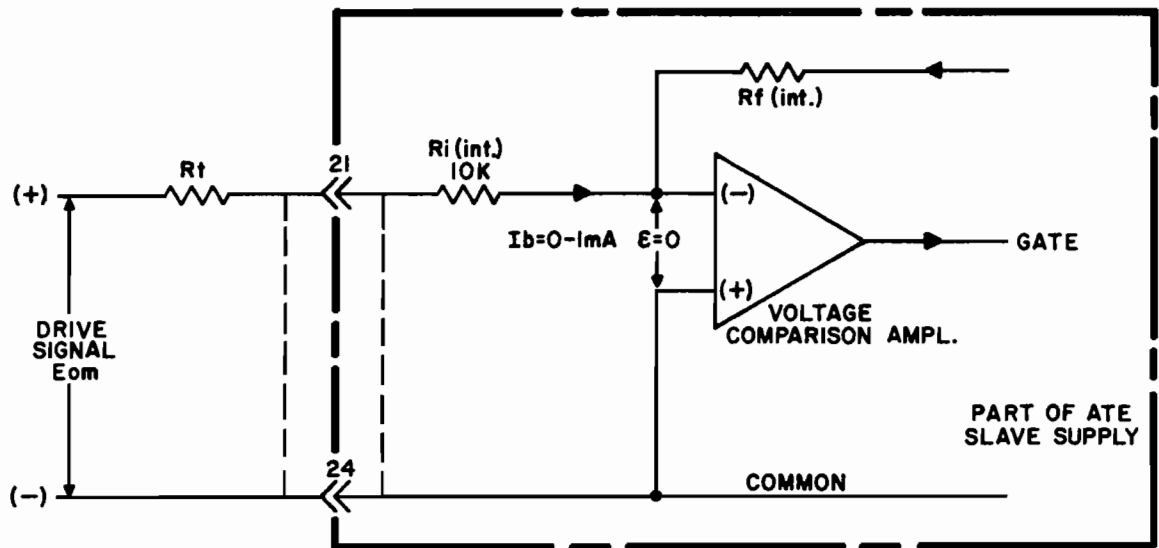

FIG. 3-21 DEVELOPING THE DRIVE FOR THE MASTER/SLAVE SERIES CONNECTION, ATE POWER SUPPLIES WITH RATED OUTPUT VOLTAGE > 6V.
- 3-98 As seen from the diagram (FIG. 3-21) in each SLAVE supply, the input to the VOLTAGE COMPARISON AMP is disconnected from the output of the VOLTAGE CONTROL amplifier and an external drive signal is derived from the output voltage of the MASTER supply ( $E_{om}$ ) and applied via a coupling resistor ( $R_t$ ), to the SLAVE supply.